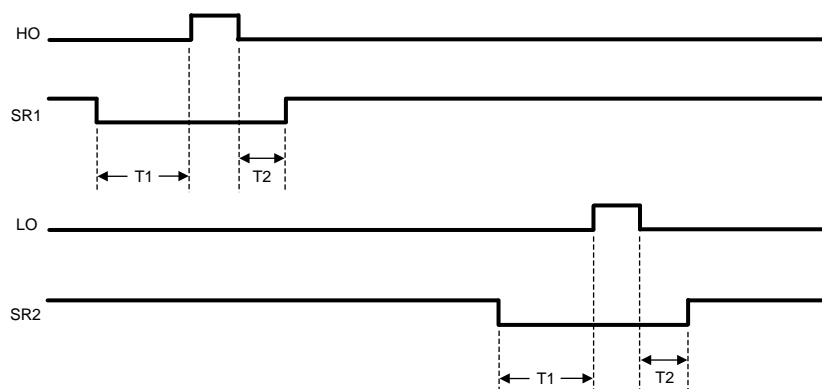

Figure 14. HO, LO, SR1 and SR2 Timing Diagram
Synchronous rectification (SR) of the transformer secondary provides higher efficiency, especially for low-output voltage converters. The reduction of rectifier forward-voltage drop (0.5 V – 1.5 V) to 10 mV – 200 mV V_{DS} voltage for a MOSFET, significantly reduces rectification losses. In a typical application, the transformer secondary winding is center tapped, with the output-power inductor in series with the center tap. The SR MOSFETs provide the ground path for the energized secondary winding and the inductor current. Figure 14 shows that the SR2 MOSFET is conducting while HO enables power transfer from the primary. The SR1 MOSFET must be disabled during this period, because the secondary winding connected to the SR1 MOSFET drain is twice the voltage of the center tap. At the conclusion of the HO pulse, the inductor current continues to flow through the SR1 MOSFET body diode. Because the body diode causes more loss than the SR MOSFET, efficiency can be improved by minimizing the T2 period, while maintaining sufficient timing margin over all conditions (component tolerances, and so on) to prevent shoot-through current. When LO enables power transfer from the primary, the SR1 MOSFET is enabled, and the SR2 MOSFET is off.
The timing of SR1 and SR2 with respect to HO and LO is shown in Figure 14. SR1 is configured out-of-phase with HO, and SR2 is configured out-of-phase with LO. The dead time between transitions is programmable by a resistor connected from the DLY pin to the AGND pin. Typically, R_{DLY} is set in the range of 10 k Ω to 100 k Ω . The dead-time periods can be calculated using Equation 4 and Equation 5:
The R_{DLY} resistor programs the delays between the SR1 and SR2 signals and the HO and LO driver outputs. Figure 14 shows the relationship between these outputs. The DLY pin is nominally set at 2.5 V and the current is sensed through R_{DLY} to ground. This current is used to adjust the amount of dead time before the HO and LO pulse (T1) and after the HO and LO pulse (T2). Typically R_{DLY} is in the range of 10 kΩ to 100 kΩ. The dead-time periods can be calculated using Equation 7 and Equation 8: